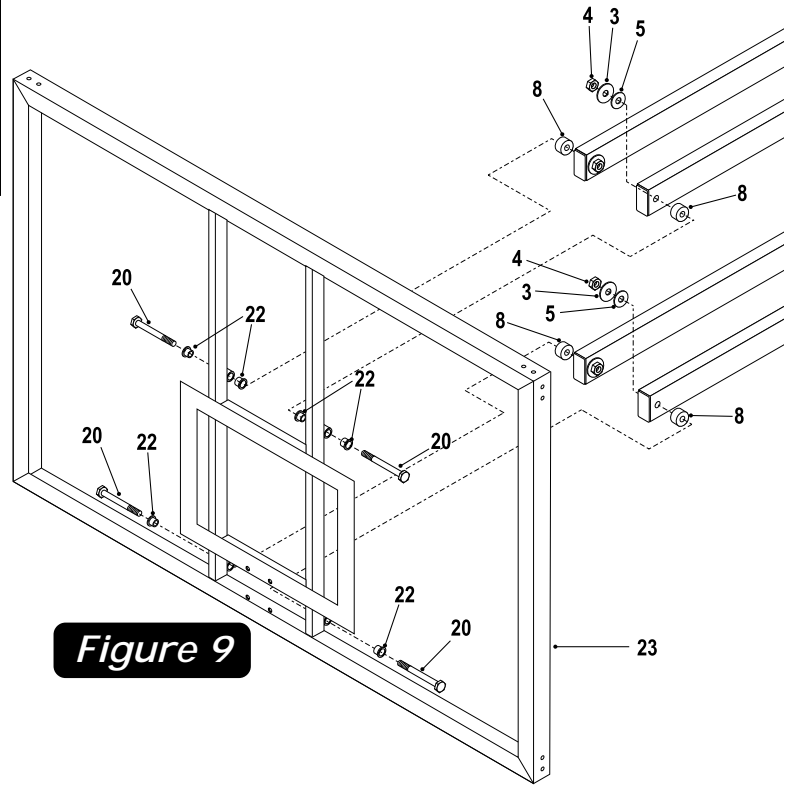

Figure 9
- With at least three capable people, raise the backboard assembly up and have the fourth attach Lower Board Arms to lower mounting tubes on backboard using two bolts (#20), four Board Bushings (#22) (shipped already installed), two spacers (#8), two plastic washers (#5), two washers (#3) and two hex nuts (#4). See Figure 9. Do NOT over tighten these bolts. This is a pivot point. Snug is tight enough.
- Attach Upper Board Arms to upper mounting tubes on backboard using two bolts (#20), four Board Bushings (#22) (shipped already installed), two spacers (#8), two plastic washers (#5), two washers (#3) and two hex nuts (#4). See Figure 9. Do NOT over tighten these bolts. This is a pivot point. Snug is tight enough.